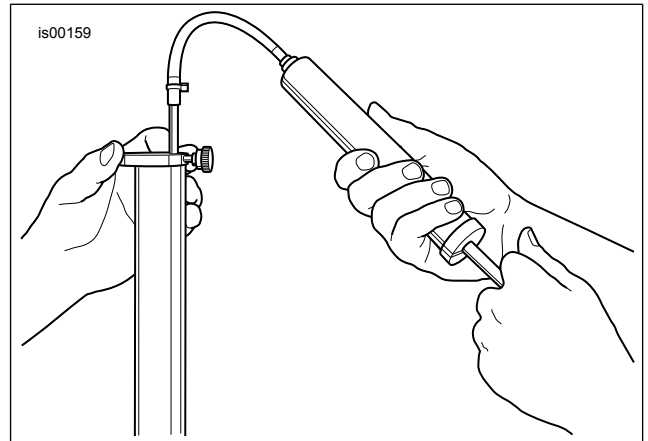

Figure 7. Remove Excess Fork Oil
14. See Figure 7. Adjust the fork oil level, so that it is 120 mm (4.72 in) from the top of the fork tube with the fork tube compressed and the main spring removed. Proceed as follows:
15. Install main spring (1) into the slider tube (E) with the dense coil end down.
16. Install spring washer (S) and then spring collar (T) (from original fork).
17. Install slider tube cap (A) and O-ring (B) on top of slider tube. Tighten cap to 29.9–80 N·m (22–59 ft-lbs).